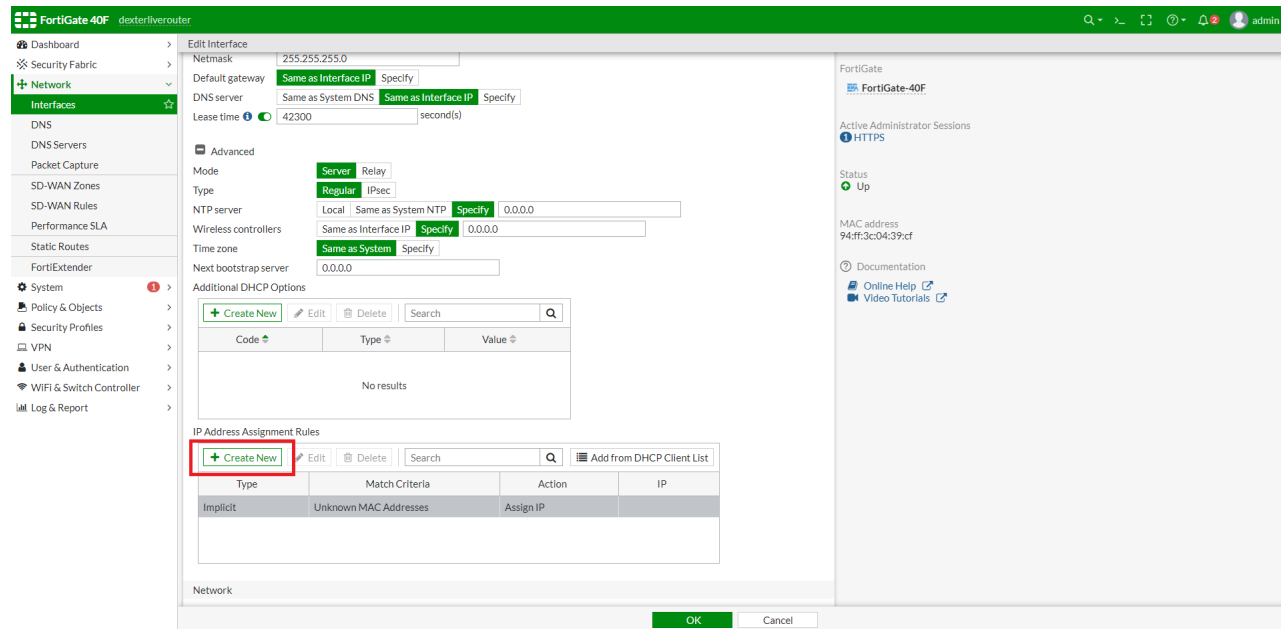

Figure 26
19. Configure the static route for the gateway by scrolling down and selecting "Create New" under "IP Address Assignment Rules" (Figure 26).